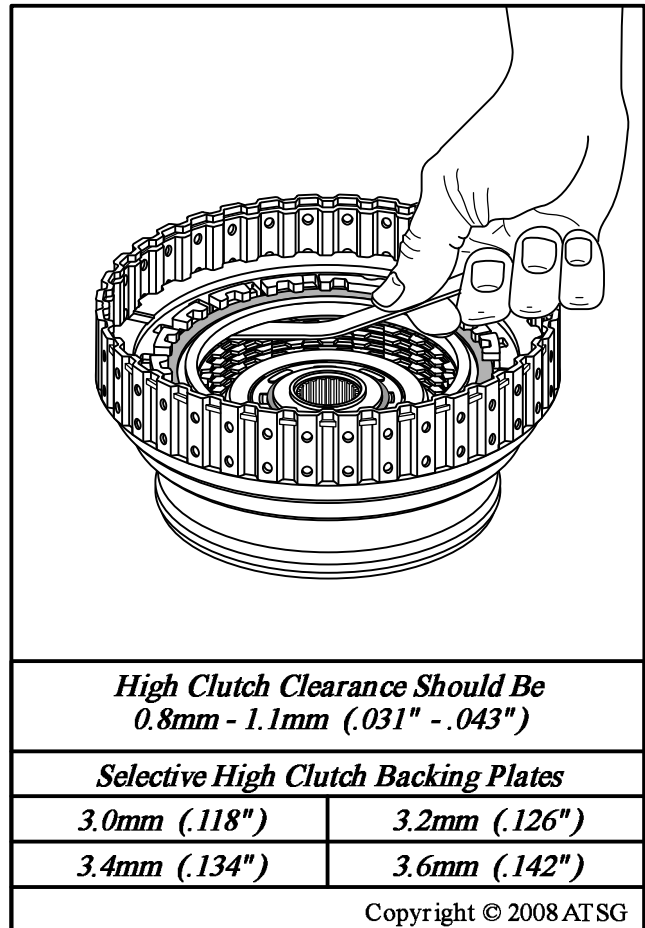

Figure 140
16. Measure high clutch clearance using a feeler gage, as shown in Figure 140.
17. Change the selective high clutch backing plate as necessary using the chart in Figure 140.